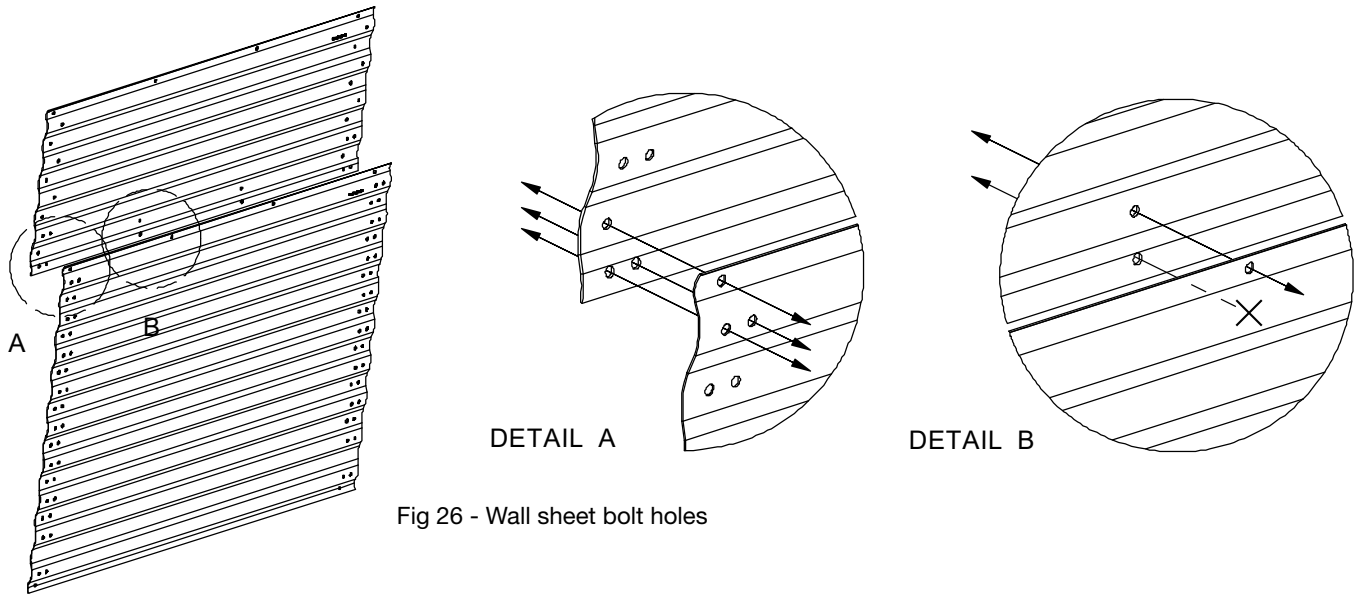

Fig 26 - Wall sheet bolt holes
6. (Optional) There will be extra bolt holes on the 24" wall sheets that do not have corresponding holes on the 47" wall sheets. In order to achieve a closer fit with the corrugations on the wall sheets, installers may drill through the 47" wall sheets and use extra 3/8 x 1" bolts in these locations. See Figure 26, Detail B
To assemble the top wall sheets, start at one end at the corner of the system or end of the round portion of the oblong. Match up the trio of bottom corner holes on the 24" wall sheet with the trio of top corner holes on the 47" wall sheet. See Figure 26, Detail A.